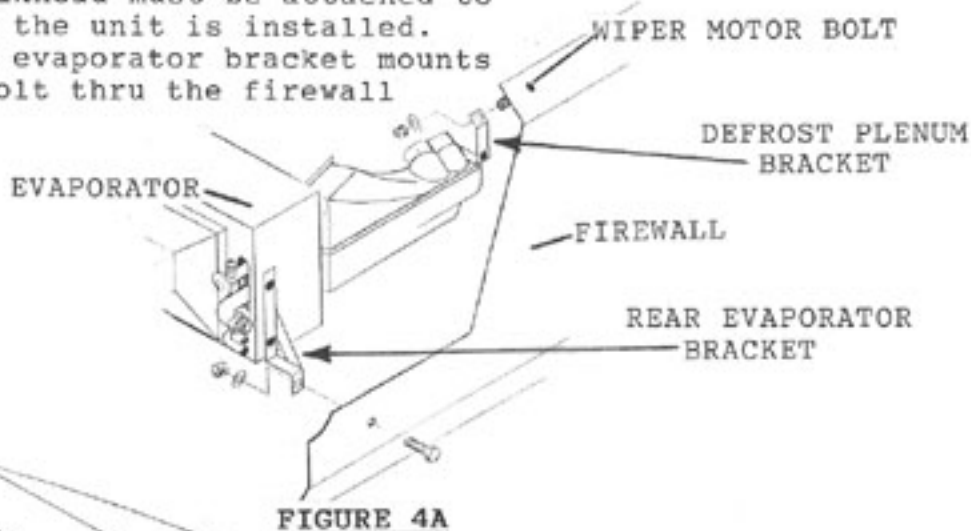

FIGURE 4A
6. The back of the evaporator is supported by a bolt thru the firewall and the bracket on the back of the evaporator as Figure 4A shows.
7. The defrost plenum is supported by the wiper motor mounting bolt on the firewall as Figure 4A shows.